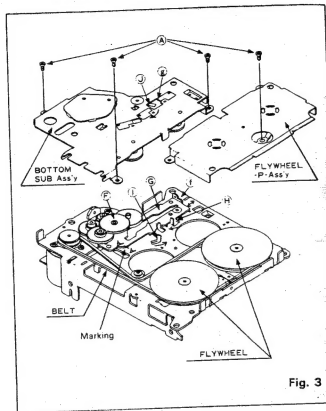

Fig. 3
- (1) Remove Screws ④ (4 pcs.). (Refer to Fig. 3)
- (2) Remove the flywheel-P-ass'y and then the bottom sub ass'y.
- (5) Following replacement of the belt, flywheel and reel base ass'y, remove the gear C ⑥ and move Section ① of the mode plate ass'y ⑤ in the arrowed direction to make marks A-A fit. (Refer to Fig. 3).
- *Moving the mode plate ass'y ⑤ without removing the gear C ⑥ causes chipping of gears.
- (6) Hold ⑥ again.
- (7) Move links of ⑧ and ① to the arrowed direction.
- (8) Push the link ④ of the bottom sub ass'y toward the arrowed direction through the hole ② so that the reel base ass'y is placed below the flywheel. Holding this condition, drop the bottom sub ass'y.
- (9) Reassemble the flywheel-P-ass'y and fasten it with Screws ④ (4 pcs.).